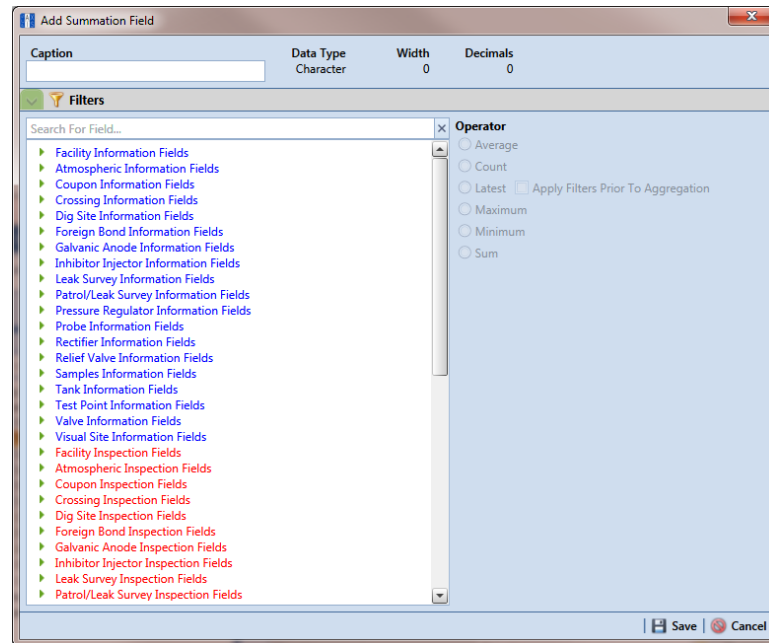

Figure 3-58. Add Summation Field
- 4 Click  **Summation** in the toolbar to open the *Add Summation Field* dialog box (Figure 3-58, page 107).